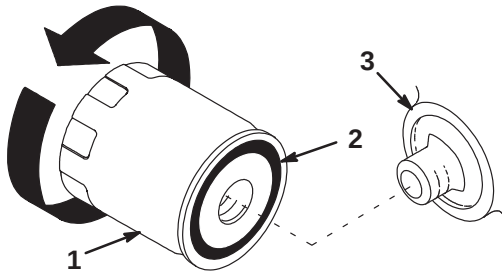

Figure 17
2. Remove the old filter and wipe the filter adapter (Fig. 17) gasket surface.
3. Apply a thin coat of new oil to the rubber gasket on the replacement filter (Fig. 17).
4. Install the replacement oil filter to the filter adapter. Turn the oil filter clockwise until the rubber gasket contacts the filter adapter; then tighten the filter an additional 1/2 to 3/4 turn (Fig. 17).